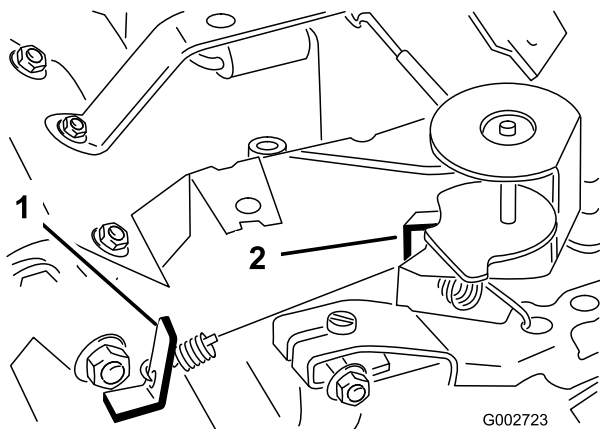

Figure 37
3. Bend the governed idle spring anchor tang (Figure 37) to attain an idle speed of 1725 \pm 50 RPM. Check the speed with a tachometer.
5. Move the throttle control to the Fast position. Bend the high speed spring anchor tang (Figure 37) to attain a high speed of 3400 ± 50 RPM.